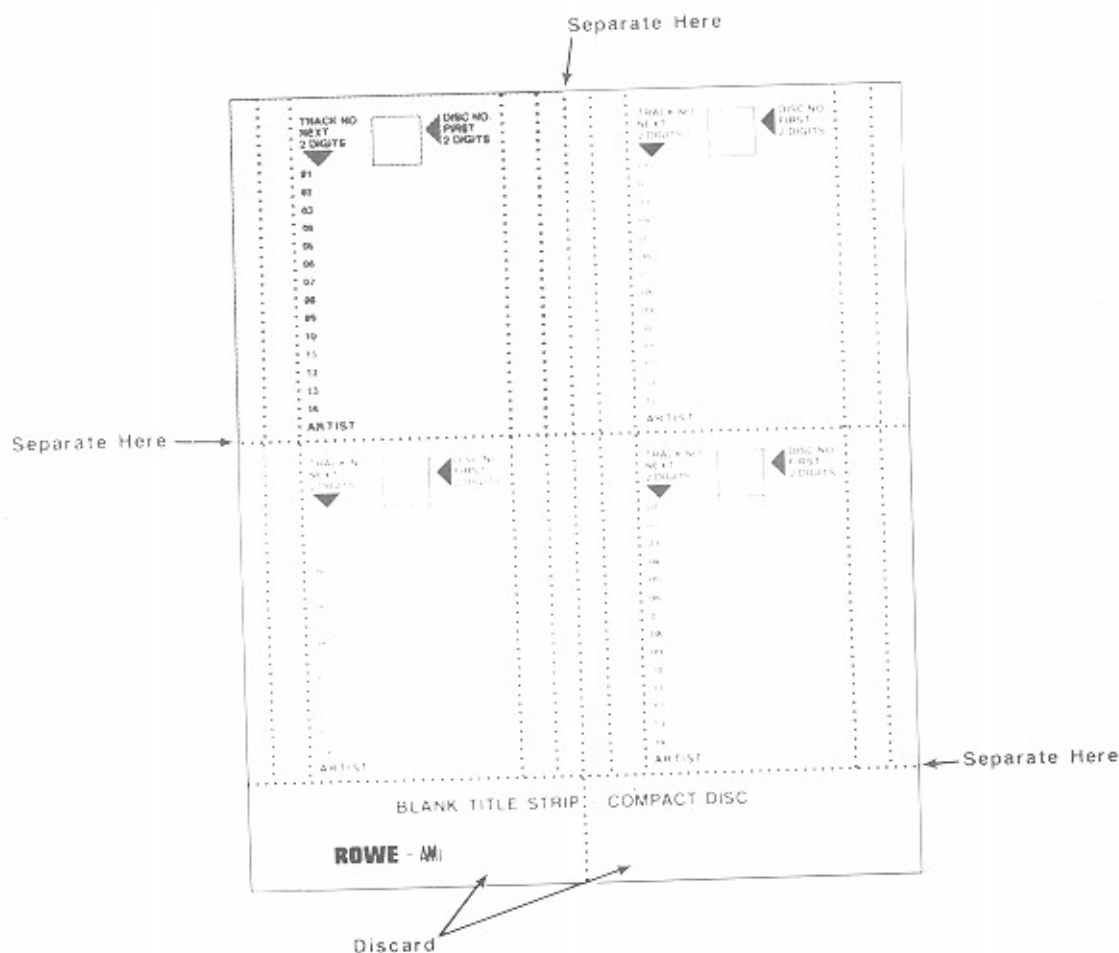

Figure 3-3. Blank Title Sheet
2. Tear each title strip from the title sheet so that the two perforated columns appear on the side of the title strip (the shaded portion of the title strip in figure 3-3 represents a title strip that has been removed from the title sheet).